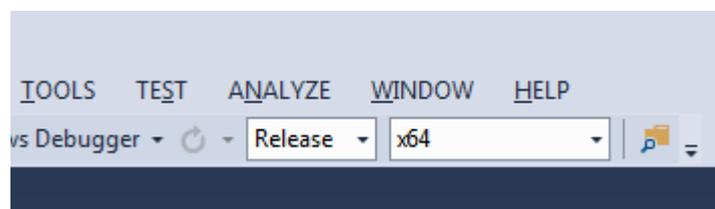

Figure 2 Build configuration of Visual Studio 2013
- 3) Choose **Release** and **x64** from the pull-down list as shown in Figure 2.
- iii) Choose **Release x64** for build configuration as shown in Figure 2.
- i) Choose **Release x64** for the configuration as shown in Figure 2.